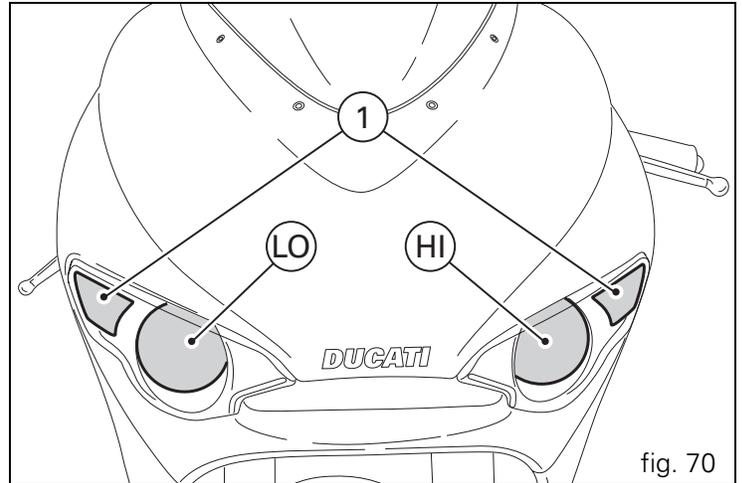

fig. 70
Shown in fig. 70 are the locations of the low beam bulb (LO), high beam bulb (HI) and parking light bulb (1).